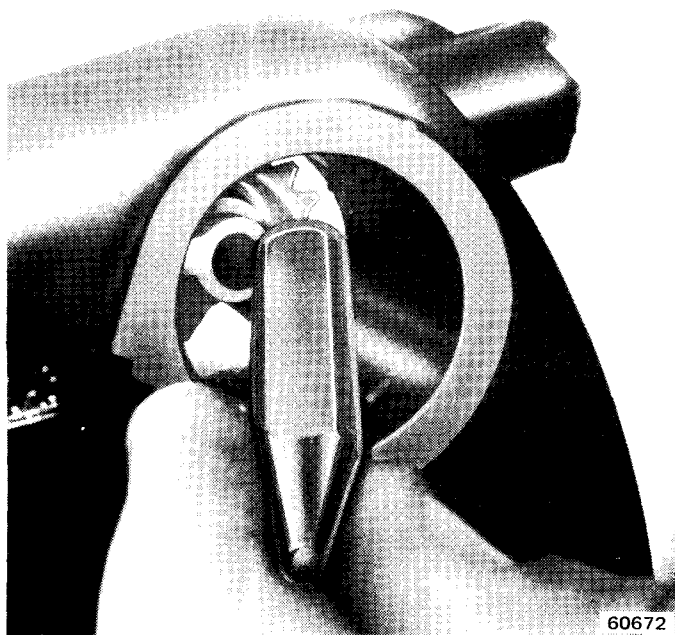

Fig. 11-18 Installing Sector
(1) Install sector on sector shaft. Install sector through lock cylinder hole in housing (fig. 11-18). Use blunt tool to press sector onto shaft. Sector should turn freely after installation.